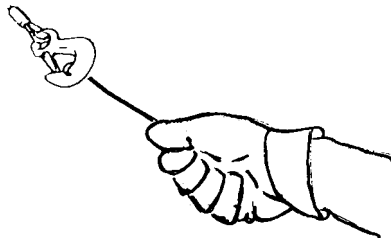

Figure 4
1. Never winch with less than 5 turns of wire rope around winch drum, since wire rope and fastener may not withstand the load. Always use hand saver bar when guiding hook for the last few feet of rope (See Figure 4)